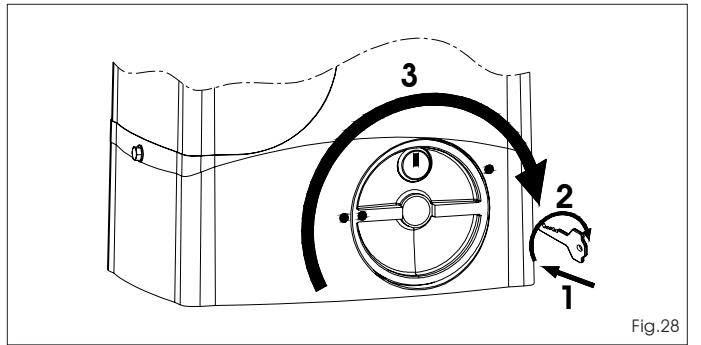

Fig.28
- 2) Turn the release system clockwise, until the mechanical stop is reached, Fig. 28 ref. 3.